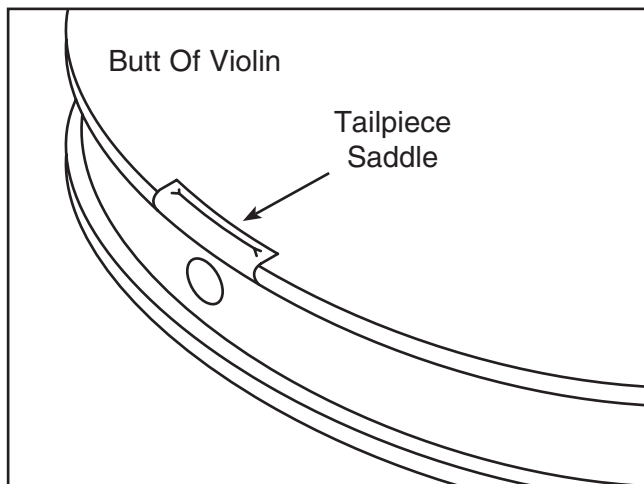

Figure 7. Installed tailpiece saddle.
4. Once the assembly is dry, use files and sandpaper to shape the tailpiece saddle edges flush with rest of the violin top (**Figure 7**).